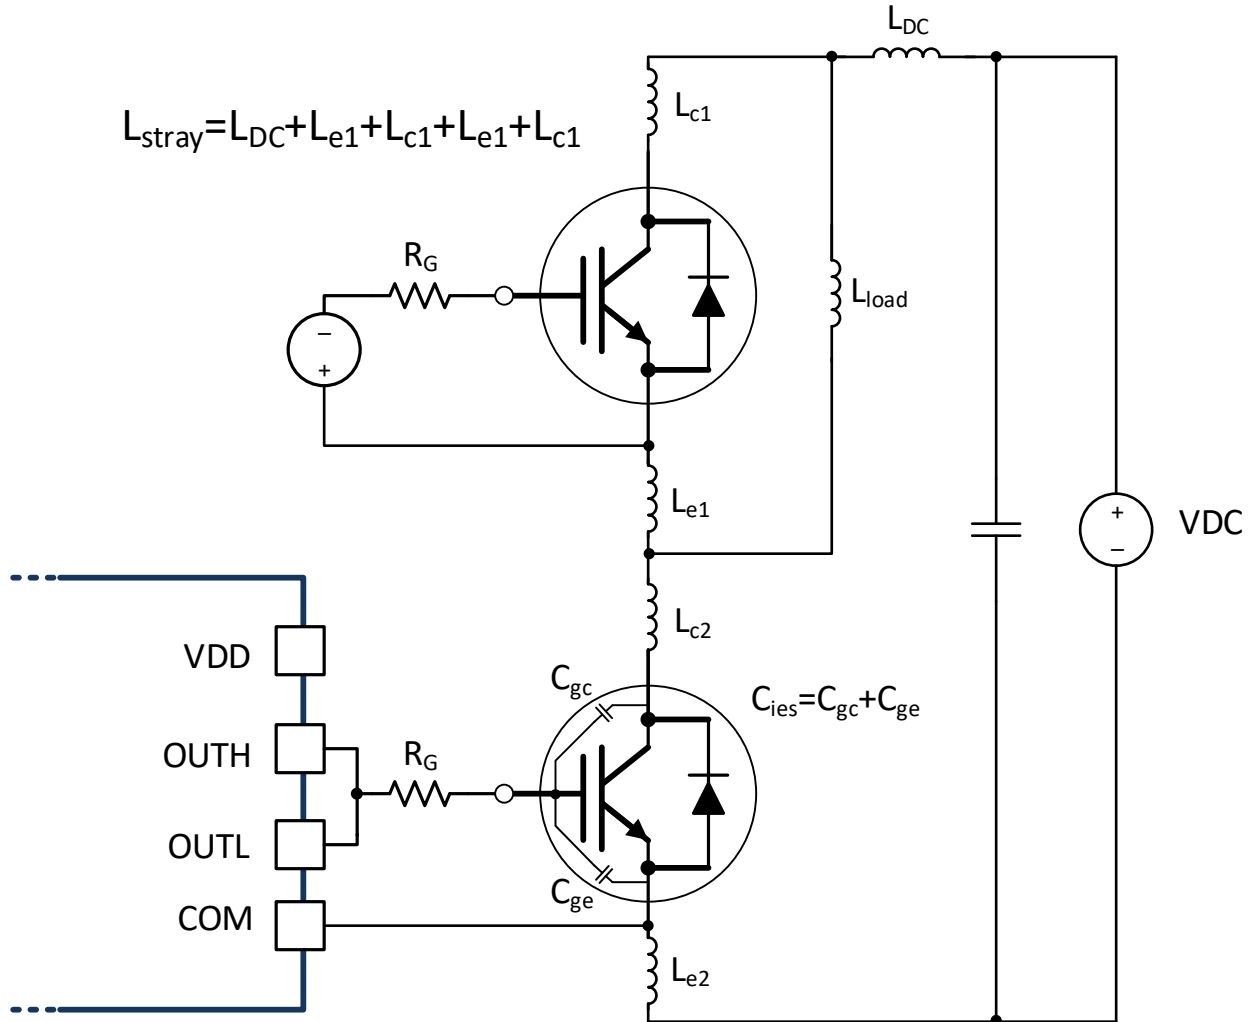

図 9-6. Stray Parasitic Inductance of IGBTs in a Half-Bridge Configuration
- L_{stray} is the stray inductance in the power switching loop, as shown in FIG 9-6.